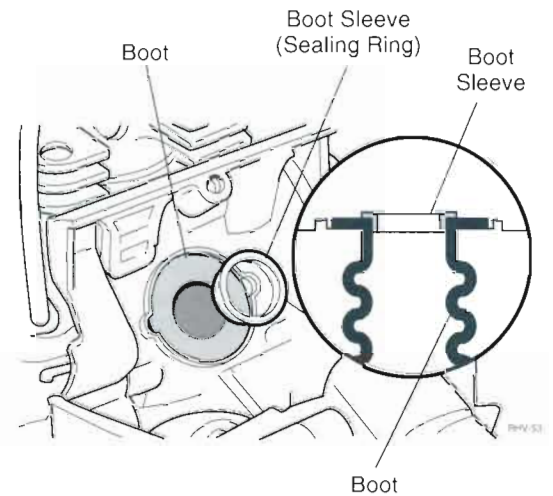

Figure 12.7 Typical Boot Sleeve Installation
STEP 9. Connect the stop switch, and then reinstall the boot sleeve (where used, Figure 12.7), carburetor, air cleaner, and cylinder cover in the reverse order of removal.